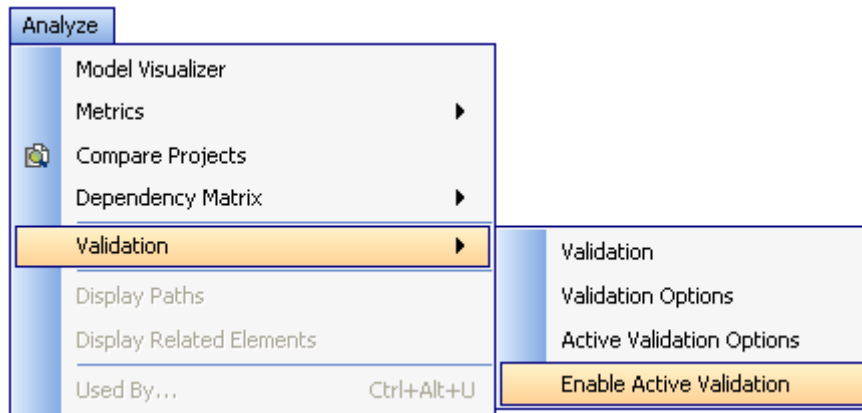

Figure 209 -- Enable Active Validation Menu
1. Click **Analyze > Validation > Enable Active Validation**, making sure that **Enable Active Validation** is selected (Figure 209). The Active Validation engine will validate in real time the model